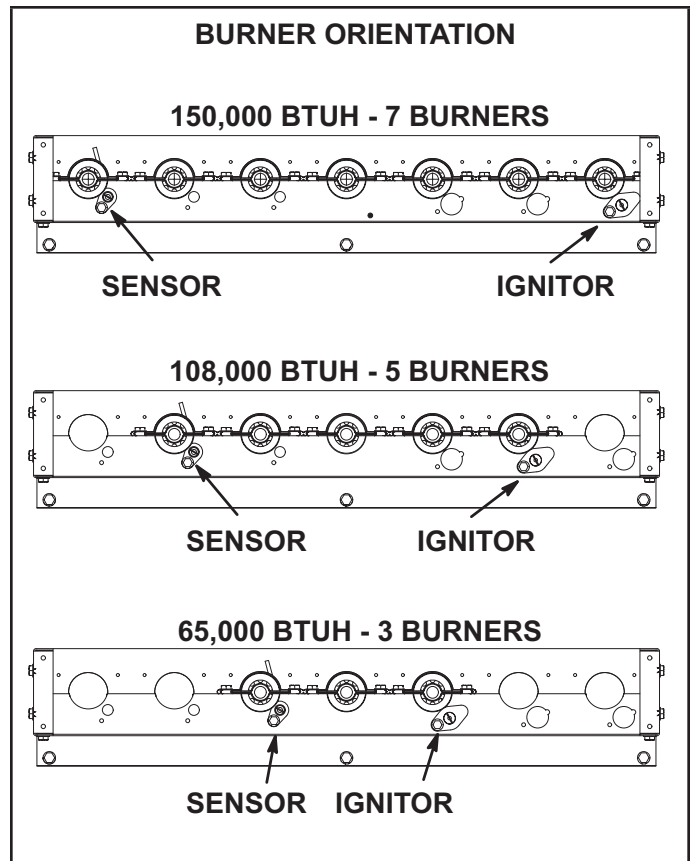

FIGURE 40
- 6 - Replace burners and screws securing burner. See FIGURE 40.